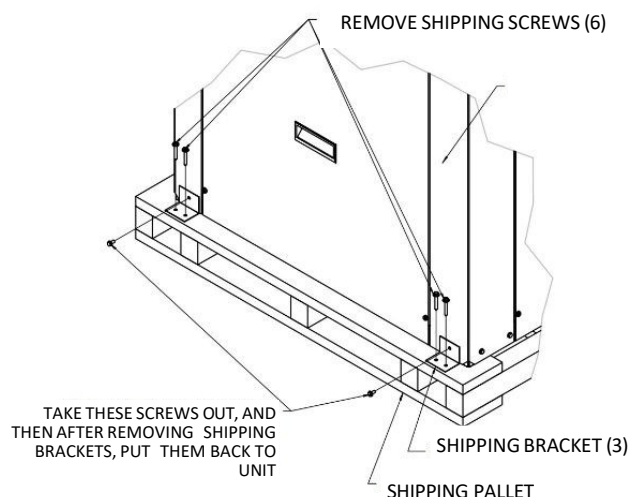
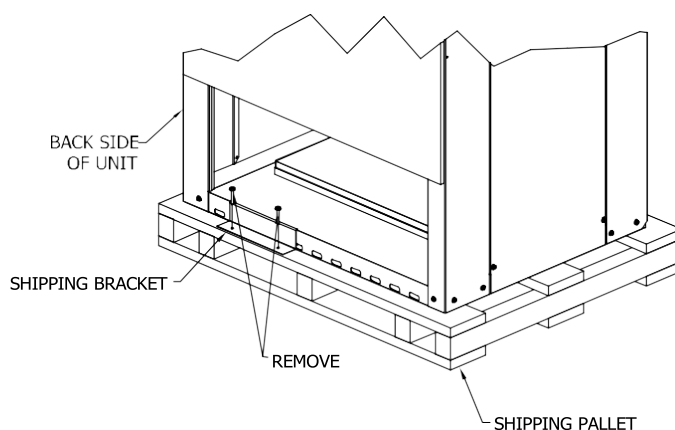

Figure 3 - Standard Packaging with Brackets – Front View
Figure 4 - Standard Packaging with Brackets – Back View
- 10) Ensure that shipping brackets and screws are removed from condensing section. Refer to FIGURE 3 - Standard Packaging with Brackets – Front View & FIGURE 4 - Standard Packaging with Brackets – Back View for more information.